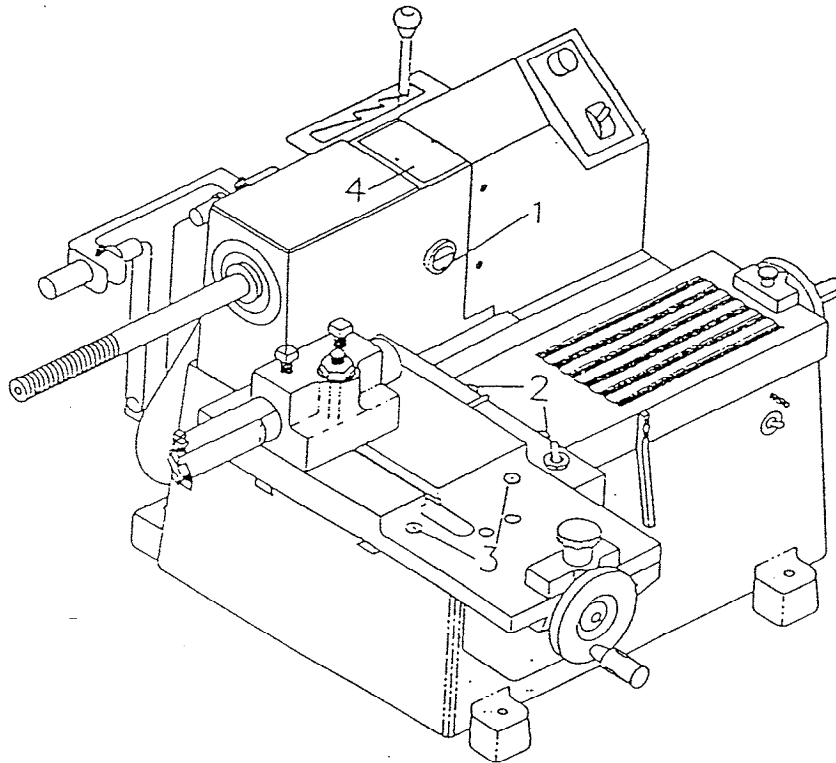

Fig.1 Lubrication points
6. Check oil level in spindle housing window (1, figure 1) before starting the lathe. Oil level is correct when window indicates shows half full in window. To fill, remove top plate. (4, Figure 1). Use S.A.E. 90 gear oil.
7. Lubricate tool carriage ways and ALL lube points (2 & 3, Figure 1) with a good grade S.A.E. 10 oil. NOTE: Lathe should be cleaned and oiled daily when in use.